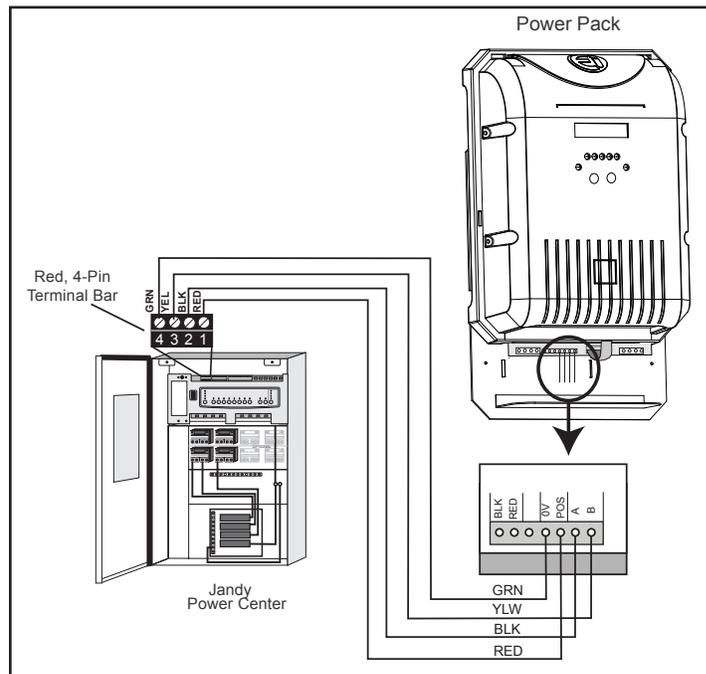

Figure 22. Communication Wiring between Power Pack and AquaLink RS Control System or PDA Network
6. The Jandy® AquaLink RS or PDA and power pack use a four (4) wire connection to communicate and can be wired up to 500 feet apart. Any outdoor rated four conductor cable, minimum 22 AWG, can be used. Locate the appropriate screw terminals on the circuit board and wire the power pack to the AquaLink RS or PDA red 4-pin terminal bar (see Figure 22).